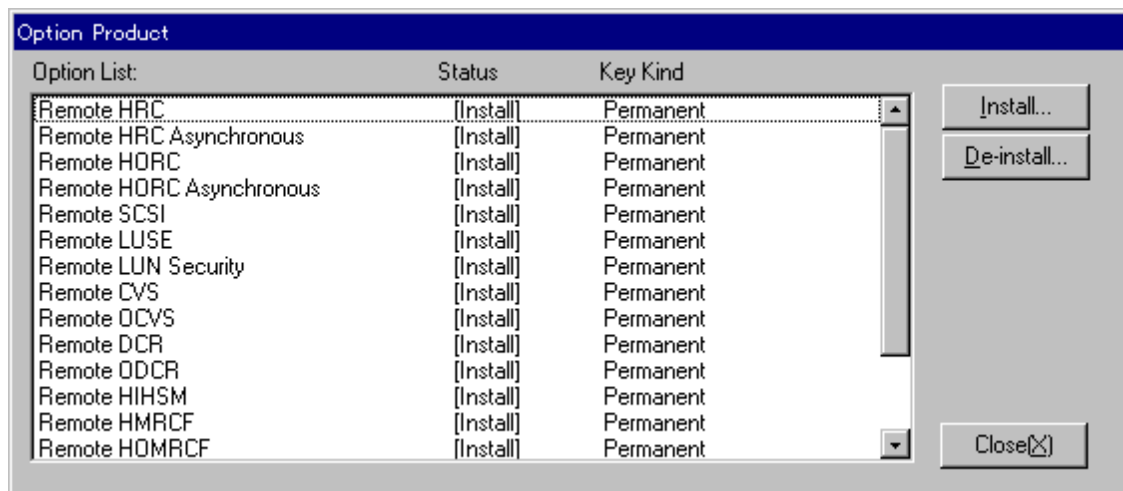

Figure 2.15 RMCMAIN Option Product Panel
The RMCMAIN Option Product panel (see Figure 2.15) displays the RMCMAIN options and their current installation status (**Install** or **Not install**). To access the RMCMAIN Option Product panel, select the **Option...** button on the Remote Console Main panel.
2. On the Remote Console Main panel, select **Option...** to open the RMCMAIN Option Product panel (refer to Figure 2.15). This panel shows the current installation status of the RMCMAIN options.
2. On the Remote Console Main panel, select **Option...** to open the RMCMAIN Option Product panel (refer to Figure 2.15).